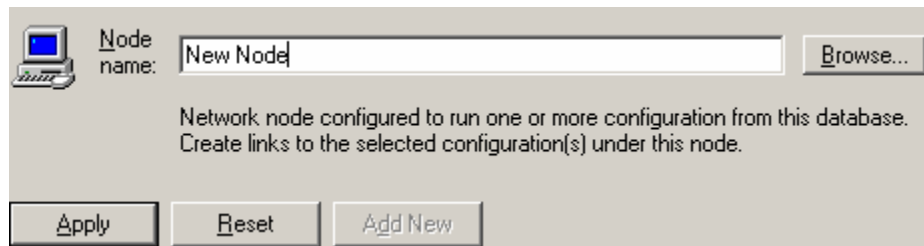

Figure 7.2. Specifying the Node Name
2. Give the new node a name, as shown in **Figure 7.2**, or click the **Browse** button to select a node.